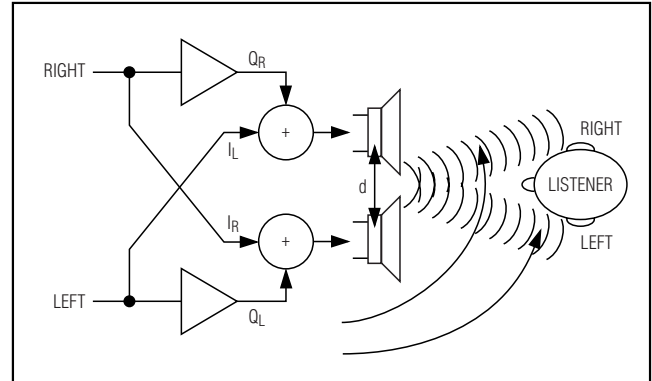

Figure 6. MAX9775 3D Stereo Enhancement
With Maxim's 3D stereo enhancement, it is possible to emulate stereo sound in situations where the speakers must be positioned close together. As shown in Figure 6, wave interference can be used to cancel the left channel in the vicinity of the listener's right ear and vice versa. This technique can yield an apparent separation between the speakers that is a factor of four or greater than the actual physical separation.
The audio inputs of the MAX9775/MAX9776—INA, INB, and INC—are preamplified and then mixed by the input mixer to create three internal signals: Left (L), Right (R), and Mono (M). Tables 5a and 5b show how the inputs are mixed to create L, R, and M. These signals are then independently volume adjusted by the L, R, and M volume control and routed to the output mixer. The output mixer mixes the internal L, R, and M signals to create a variety of audio mixes that are output to the headphone speaker and mono receiver amplifiers. Figure 6 shows the signal path that the audio signals take.